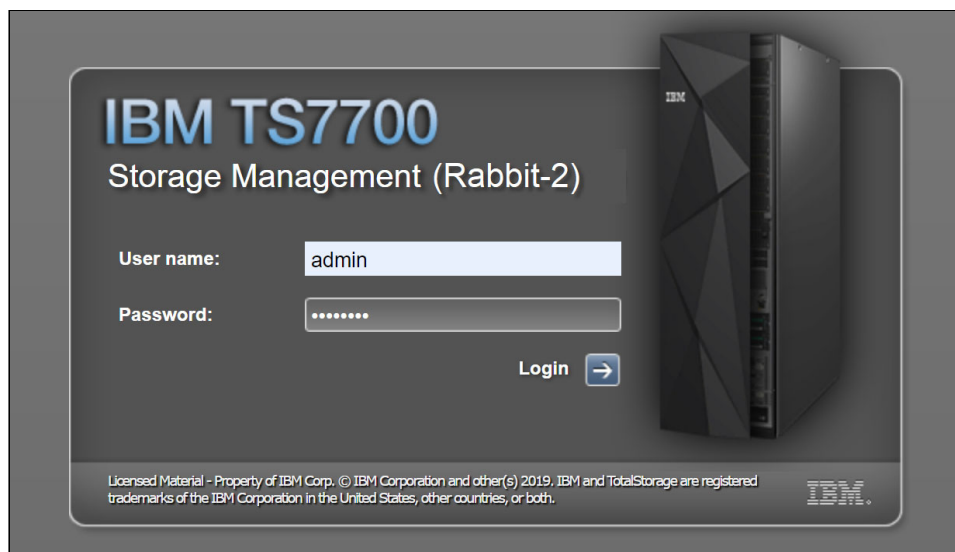

Figure 9-3 TS7700 MI login
4. The login page for the Management Interface loads, as shown in Figure 9-3. The default login name is admin and the default password is admin. Starting with R5.0, the first time that an administrator logs in to the MI, the application reports the password as expired and requests the user to change it.
Every user (regardless of the role) can reset their own expired password from the MI login page (as shown on Figure 9-3) by entering the expired password and updating it.